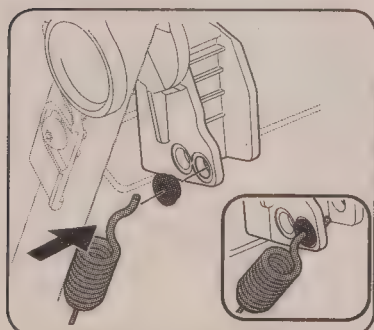

Figure 4-5
4. Replace bushing in the lower hole and reattach the cable through the bushing and lower hole in the handle. See Figure 4-5.